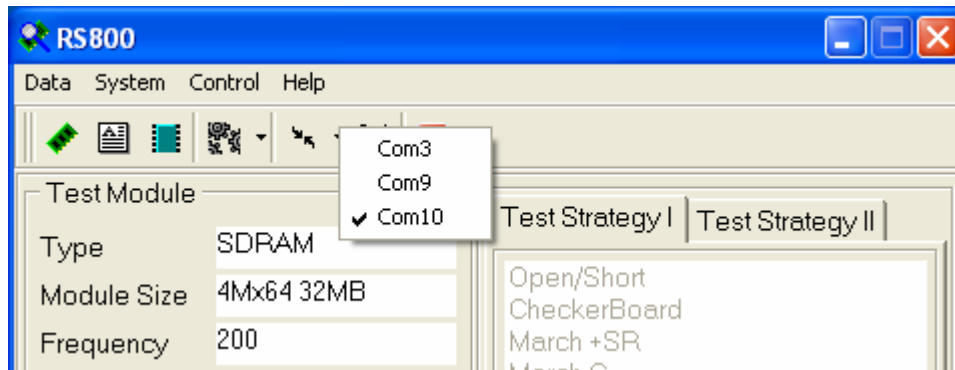

Fig. 28
Step 2: Launch the RS800 software. Click on the  icon next to the “Connect” icon  to pick the correct virtual serial port for connecting the tester (which usually is the highest port available). (Fig. 28)